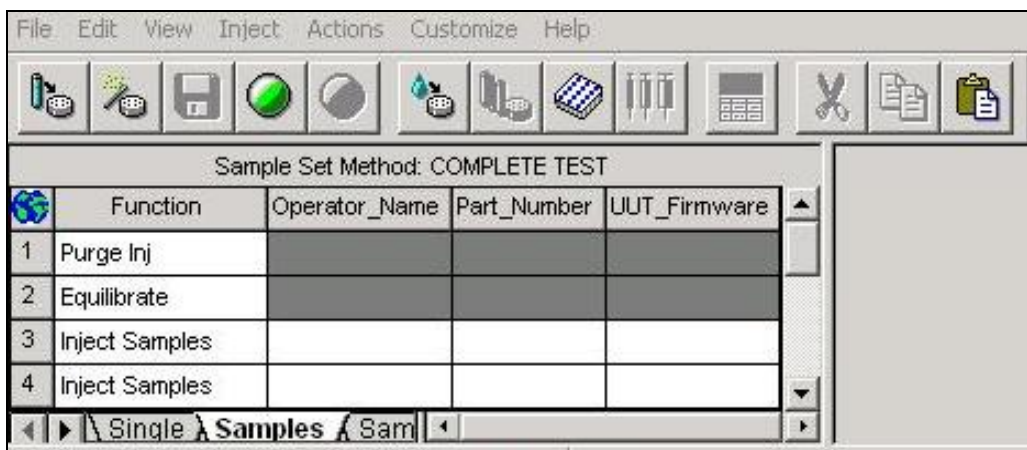

Figure 3 Complete Test Sample Set
24.8. Fill in (or scan) the Operator_Name, Part_Number and UUT_Firmware columns. See Figure 3.